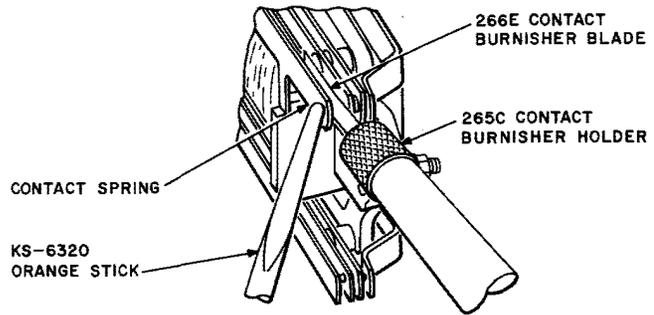

Fig. 8—Method of Burnishing Contacts on A-, AB-, E-, EA-, F-, H-, R-, and T-Type Relays
4.16 In burnishing normally open contacts, place the blade of the burnisher between the contacts. Press them together with the KS-6320 orange stick as indicated in Fig. 8 or operate the relay manually, giving a slight pressure against the blade of the burnisher, and at the same time move the blade back and forth. Fig. 8 through